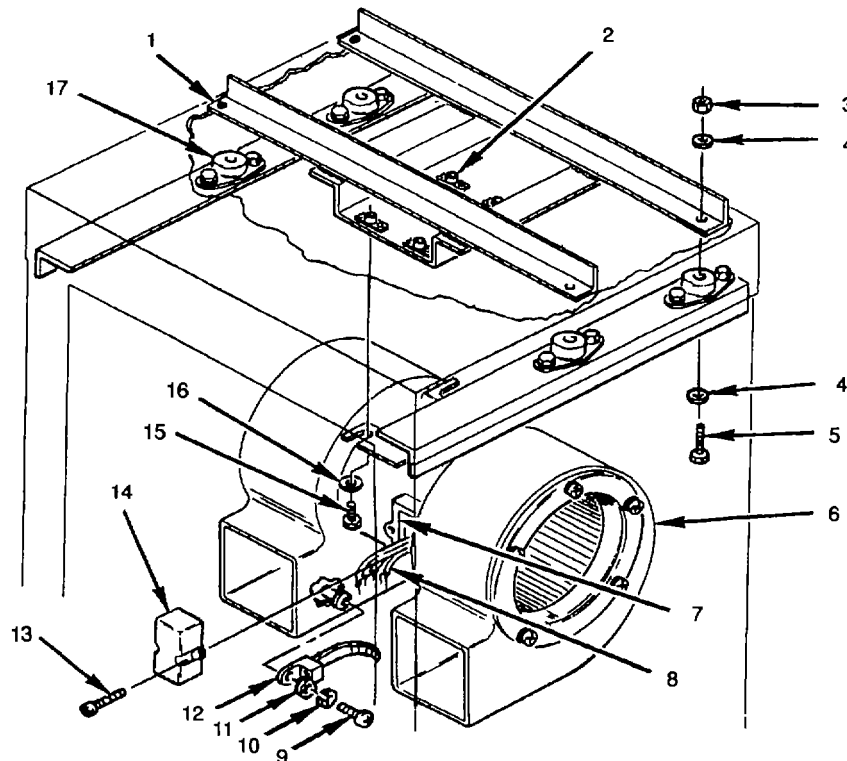

Figure 4-36. Evaporator Motor and Housing Assembly
- (1) Disconnect air conditioner input power at source, and
- (2) Remove evaporator duct/panel (paragraph 4 22)
- a. Remove two screws (13) securing cover (14) to J-box (7) (see fig 4-36).
- b. Remove cover (14).
- c. Tag, disconnect and remove leads (8) from J-box (7).
- d. Remove screw (9), lockwasher (10), and flat washer (11) securing cable tie-down clamp (12) to housing assembly (6).